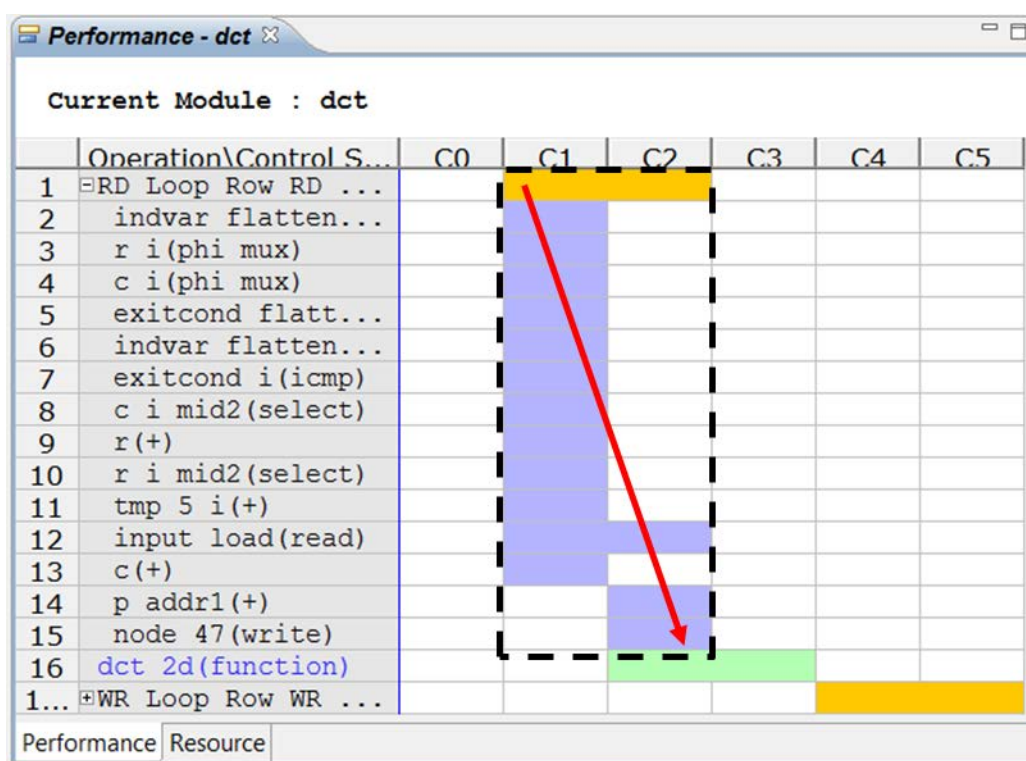

Figure 127: Analysis of DCT RD_Loop_Row
9. In the **Performance** view, expand the first loop in the design as shown in **Figure 127**, `RD_Loop_Row_RD_Loop_Col` (these loops were flattened and the name is now a concatenation of both loops).
This loop is implemented in two states. The red arrow in **Figure 127** shows the path from the start of the loop to the end of the loop: the arrow is almost vertical (everything happens in two clock cycles) and this loop is well implemented in terms of latency.